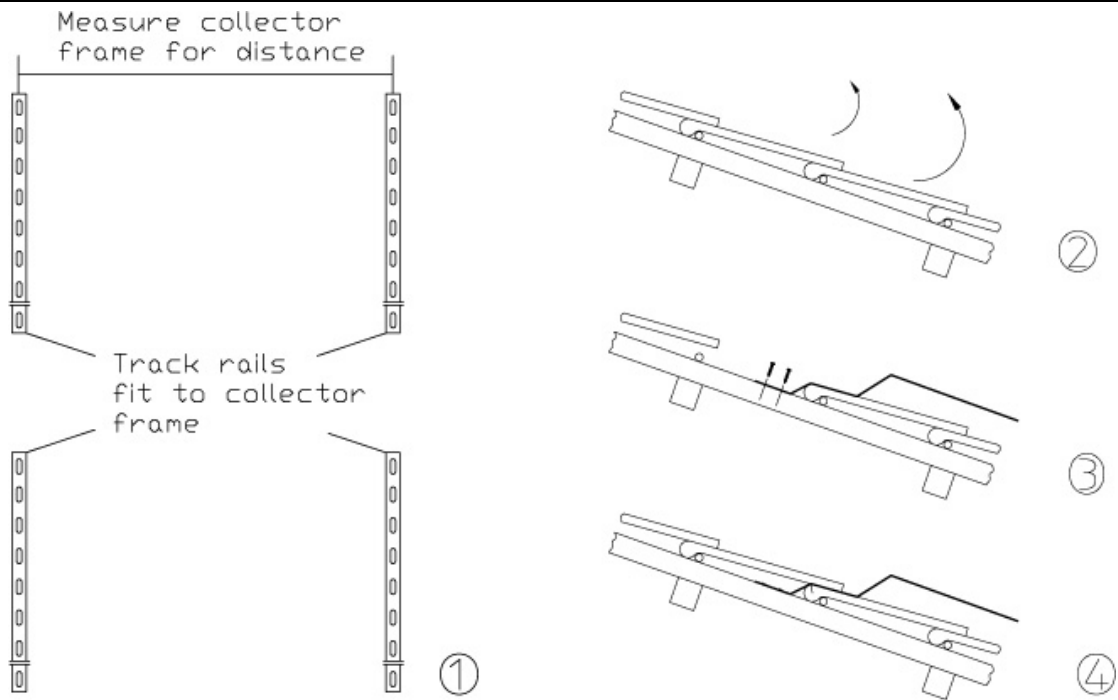

Fig 3.10
- Bend mounting straps according to the height of tiles and the location of long-round hole on vertical. Make the bended mounting straps through the gap of two tiles, and fix it on roof by screws. The fix all mounting straps in this way. After that, put solar collector on the roof and adjust the location so that you can fix vertical bar with the bended mount straps by screws. Fix solar collector on mounting straps. (Fig 3.10~3.13).